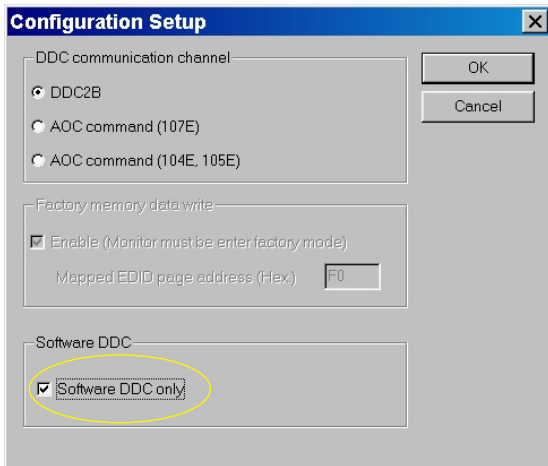
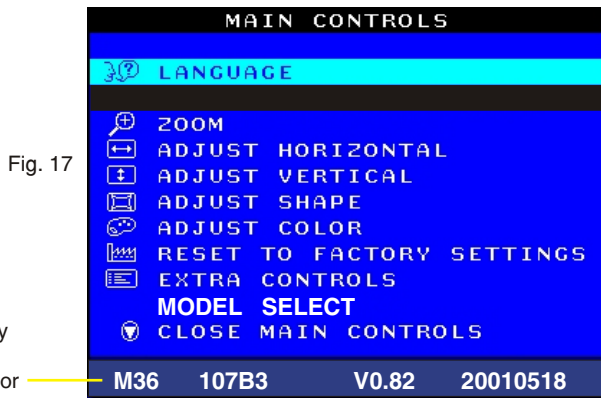

Fig. 16
Fig. 17
- Click  icon from the tool bar to bring up the Configuration Setup windows again. Then, select "Software DDC only" as shown in Fig. 16. Click "OK".
4. Access "Factory Mode" and enable "Software DDC only" as shown in Fig. 17 & Fig. 16.